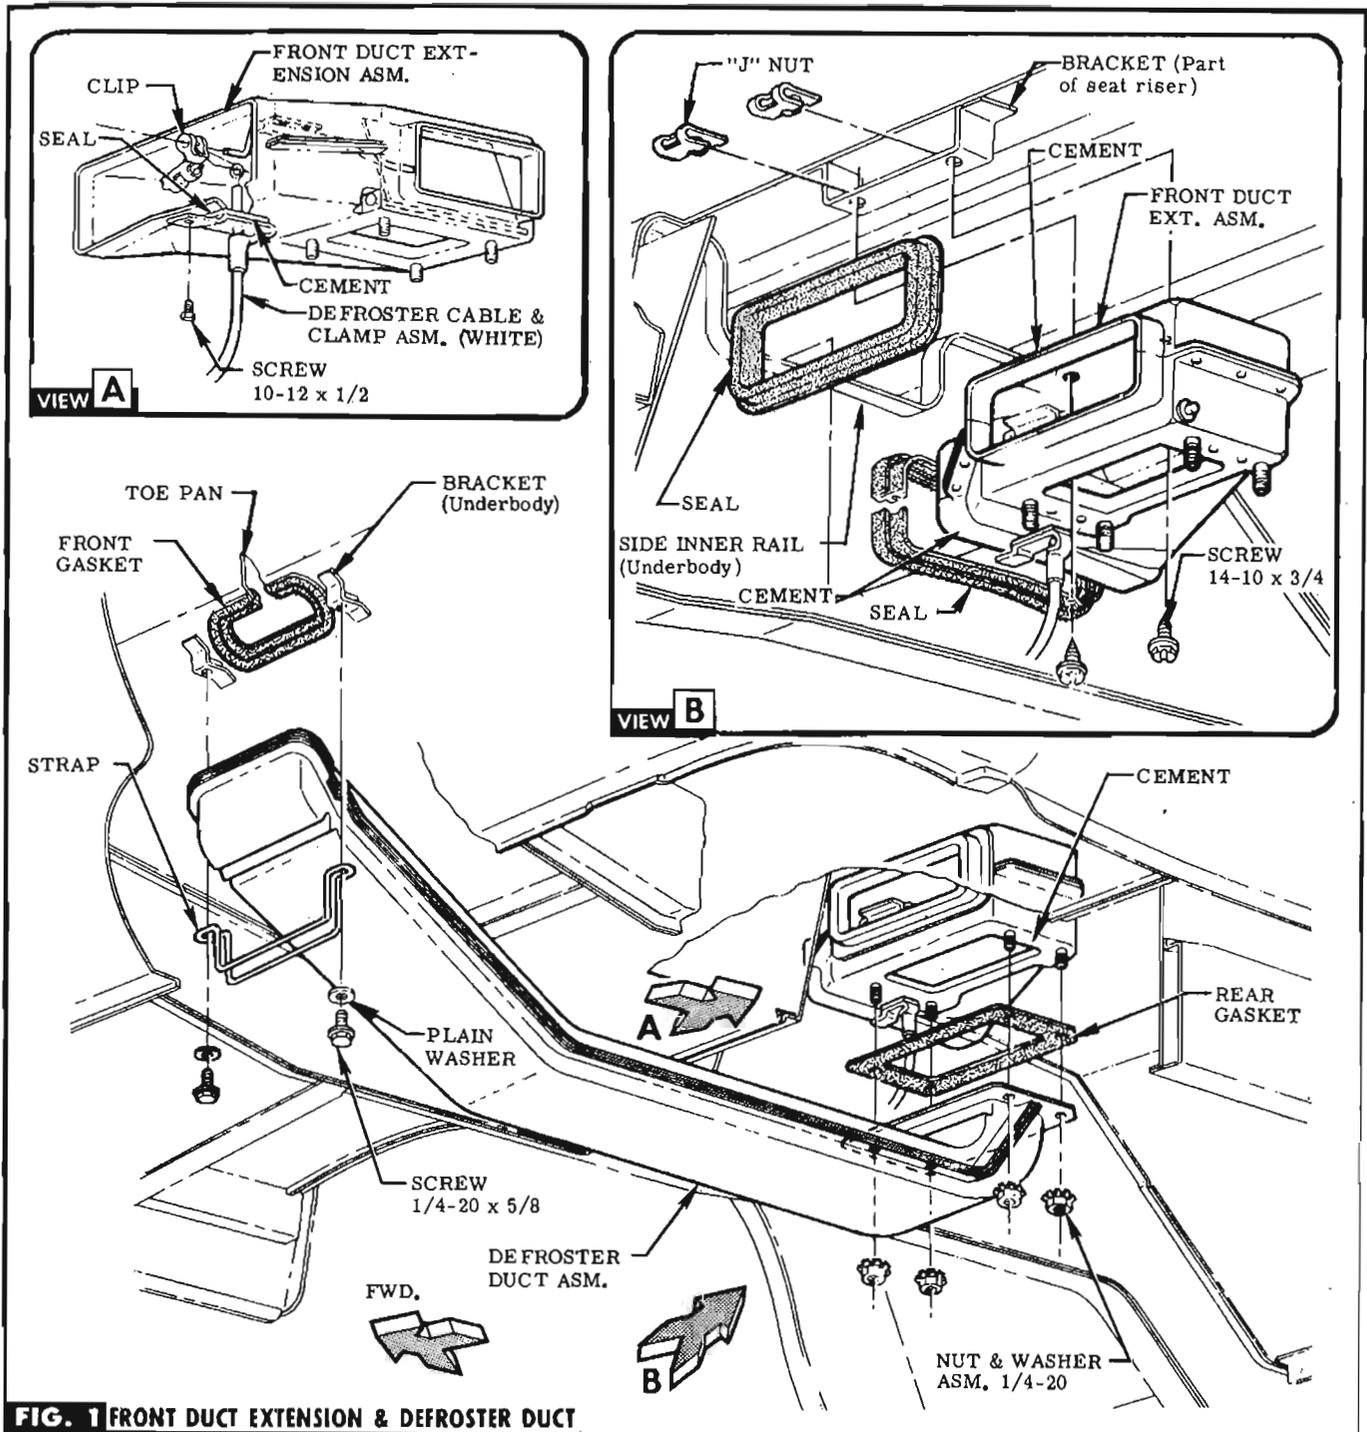

FIG. 1 FRONT DUCT EXTENSION & DEFROSTER DUCT
STEP 7 CEMENT SURFACE OF FRONT DUCT EXTENSION & INSTALL REAR GASKET OVER STUDS. INSTALL FRONT GASKET TO OPENING IN TOE PAN. SEE FIG. 1.
STEP 8 POSITION DEFROSTER DUCT OVER STUDS ON FRONT DUCT EXTENSION & THRU OPENING IN TOE PAN & SECURE WITH STRAP & ATTACHING PARTS (IN BAG B). SEE FIG. 1.
STEP 63 REMOVE EXISTING FLOOR MAT & CEMENT PROVIDED PADS TO UNDERBODY OF FLOOR MAT. CUT OUT PERFORATED AREA. SEE FIG. 1.